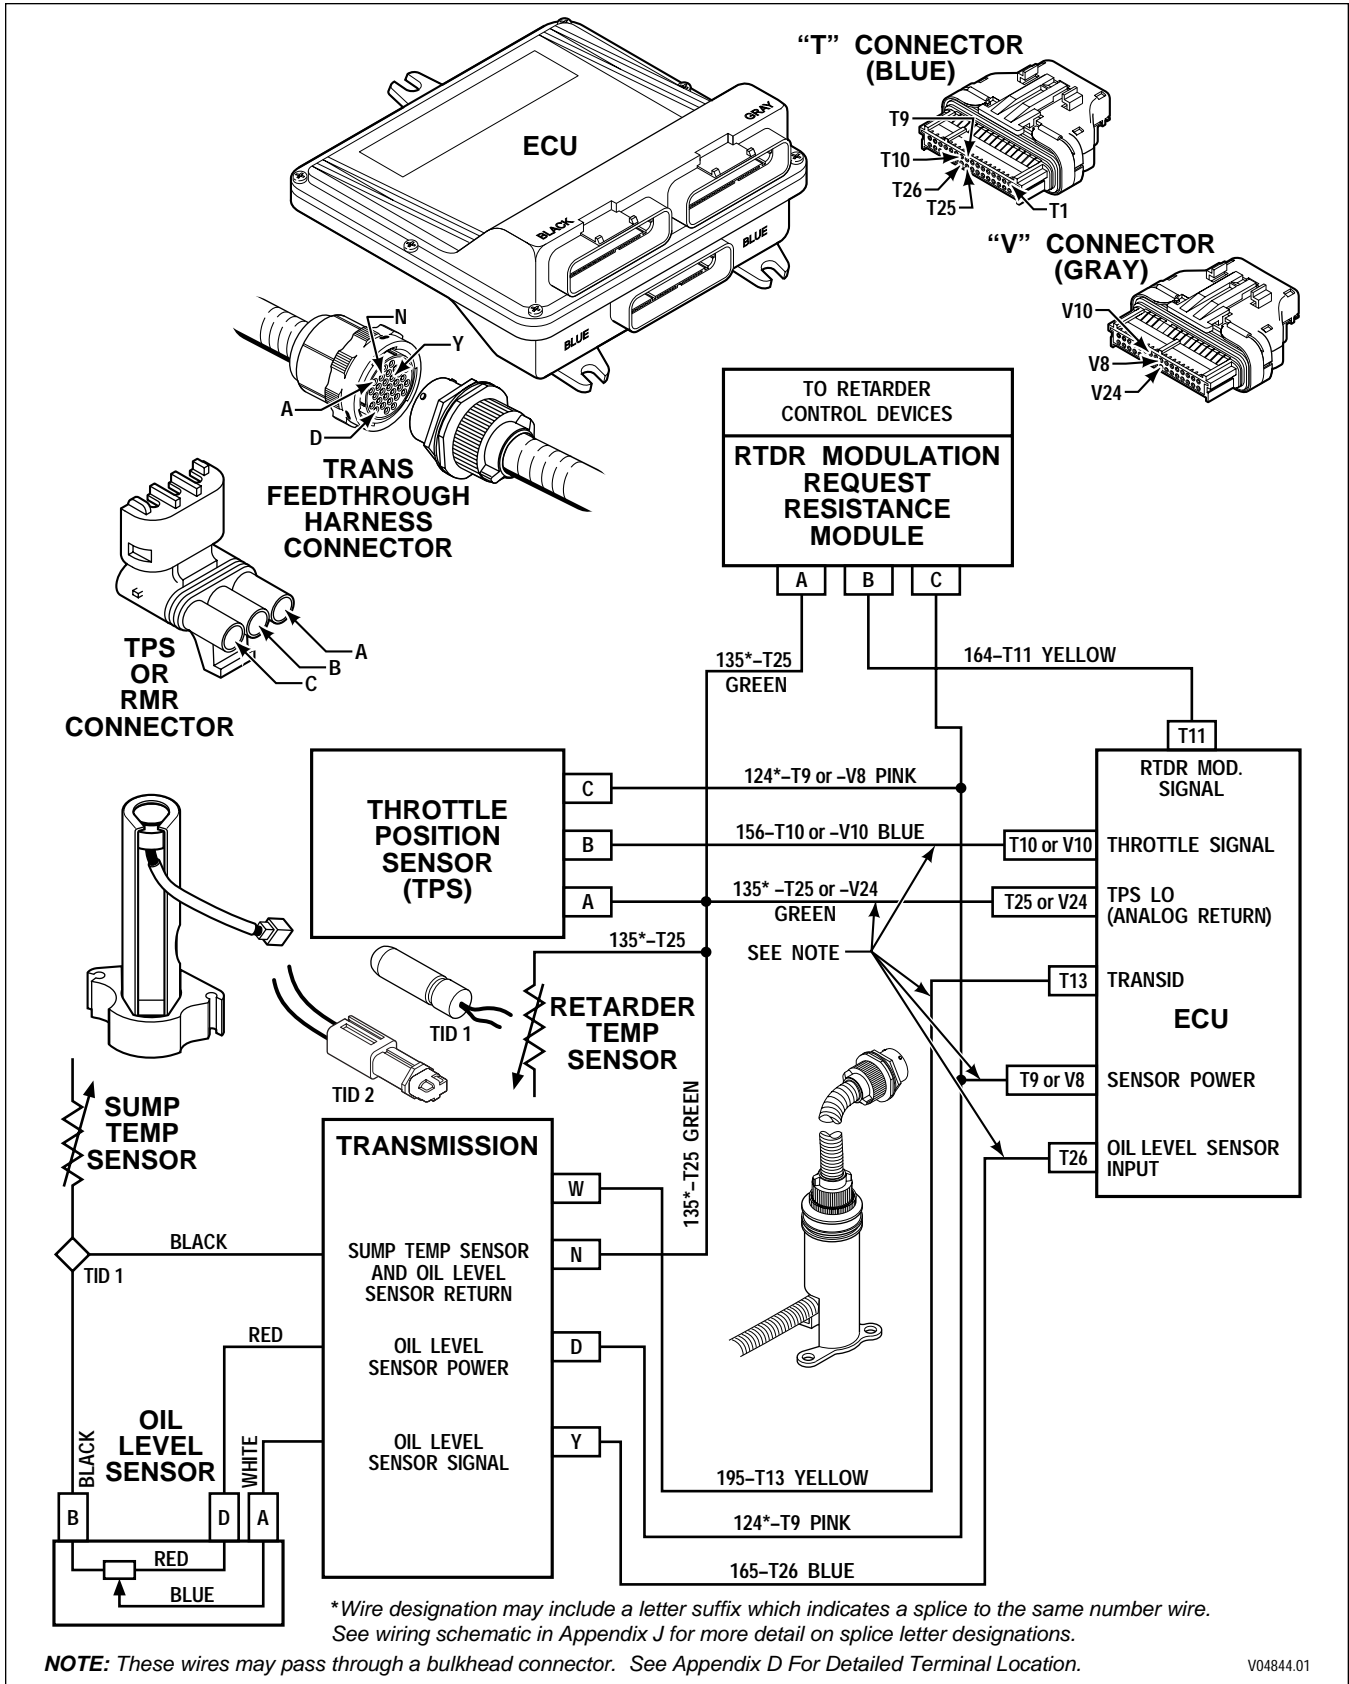

Figure 6-3. Code 14 Schematic Drawing
**CODE 14 XX — OIL LEVEL SENSOR (OLS)** (Figure 6-3)